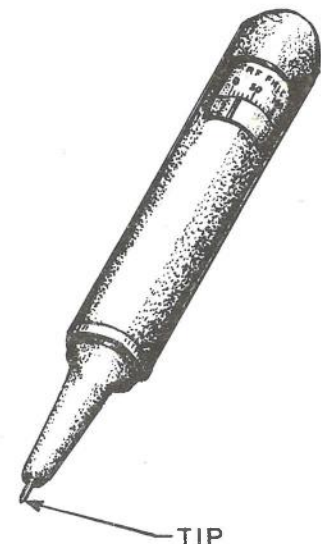

Figure 1-6. RF Indicator-Probe ID-263/U, Identification
f. RF INDICATOR-PROBE ID-263/U. (See figure 1-6.) - This unit contains a meter movement and a crystal rectifier circuit housed in a plastic body. It is used to indicate the presence of electric RF fields of relatively large magnitude. Its sensitivity is of the order of 25% of full scale when one volt of RF voltage is applied to the tip of the Probe. The hand capacitance of the operator supplies the return RF connection.